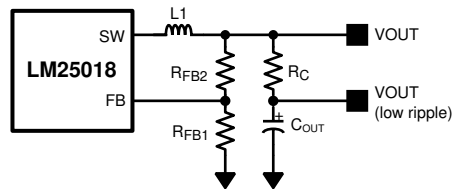

Figure 7-1. Low Ripple Output Configuration
This regulator regulates the output voltage based on ripple voltage at the feedback input, requiring a minimum amount of ESR for the output capacitor (C_{OUT}). A minimum of 25 mV of ripple voltage at the feedback pin (FB) is required for the LM25018. In cases where the capacitor ESR is too small, additional series resistance can be required (R_{C} in Figure 7-1).
For applications where lower output voltage ripple is required, the output can be taken directly from a low ESR output capacitor, as shown in Figure 7-1. However, R_{C} slightly degrades the load regulation.